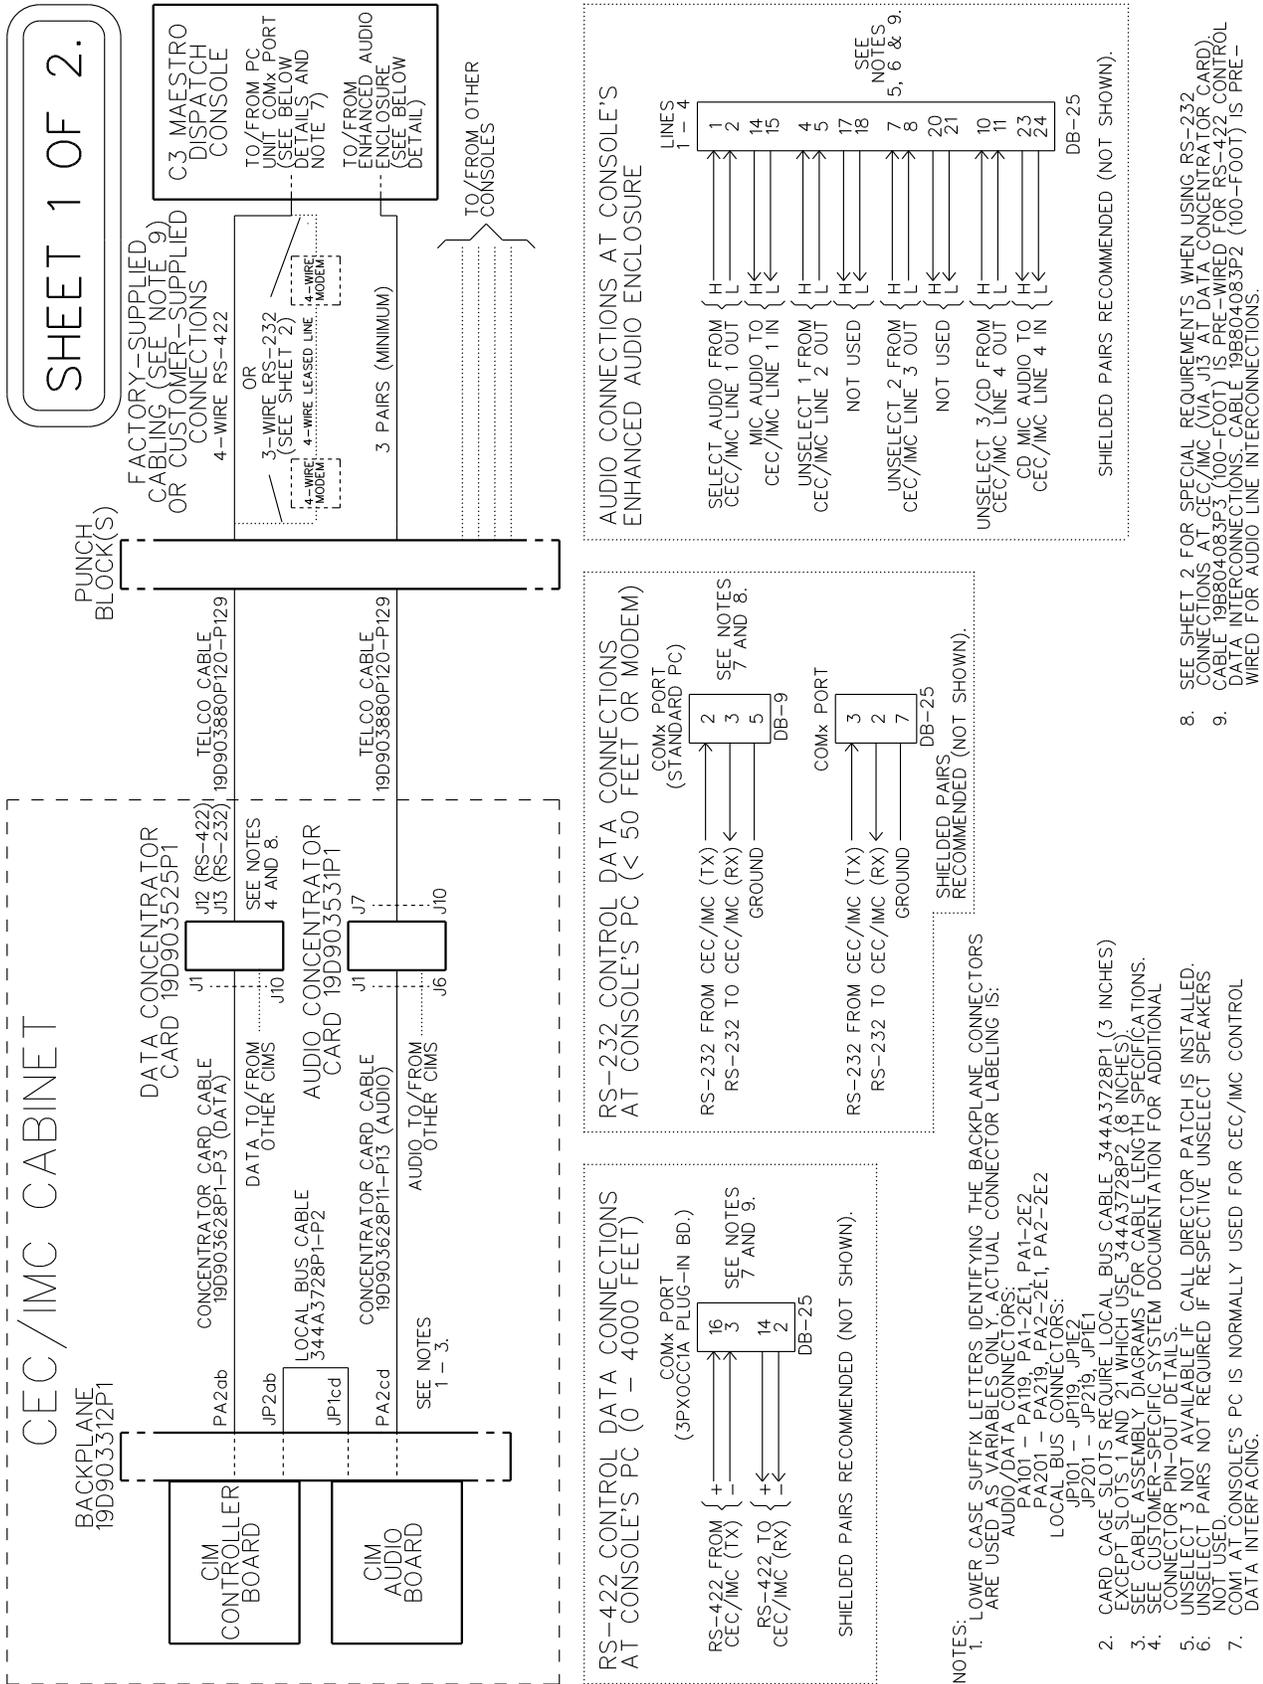

Figure 6A - CEC/IMC-To-C3 Maestro Interconnections (Co-Located)
- If using the supplied control data cable, mate its female DB-25 to the PC's RS-422 male DB-25 connector, route it to the CEC/IMC, shorten the cable as required, and punch the wires to the correct terminals. See Table 4 or the cable's assembly diagram near the end of this manual for wire color coding. Also see Figure 6A and the cable's assemble diagram on page 36.
Audio Concentrator Cards at the back of the CEC/IMC cabinet provide audio connections at the CEC/IMC. Like the control data connections, audio connections are normally extended out of the CEC/IMC cabinet via Telco cable(s) and line terminations are actually made at punch blocks. See Figure 6A. See the customer-specific system documentation print-outs for Concentrator Card connector pin-out details.